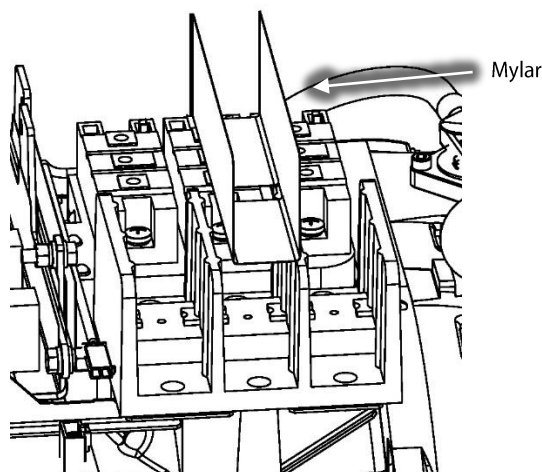

Figure 29 – Main Power Mylar Insertion
19. Reinstall the Mylar in the middle of the Terminal Block. Refer to Figure 29 (Main Power Mylar Insertion).